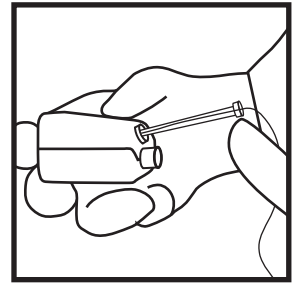

Fig. 5
7. Insert guidewire (0.025", 0.035", or 0.038" diameter) through COMPASS guidewire port and into vessel (refer to Fig. 5)